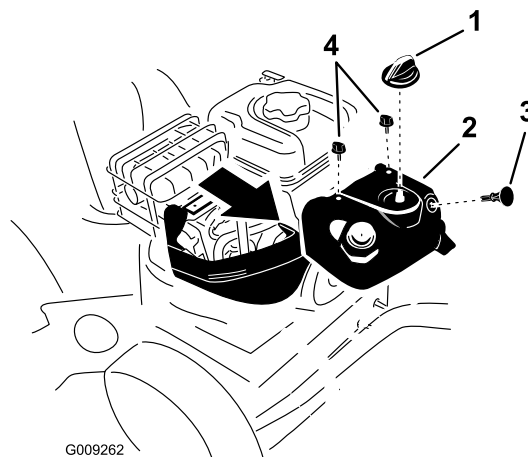

Figure 33
Note: To access the spark plug, you must first remove the upper snow hood (Figure 33).
1. Remove the choke knob and the ignition key (Figure 33).
2. Remove the 2 screws that secure the upper snow hood to the machine (Figure 33).